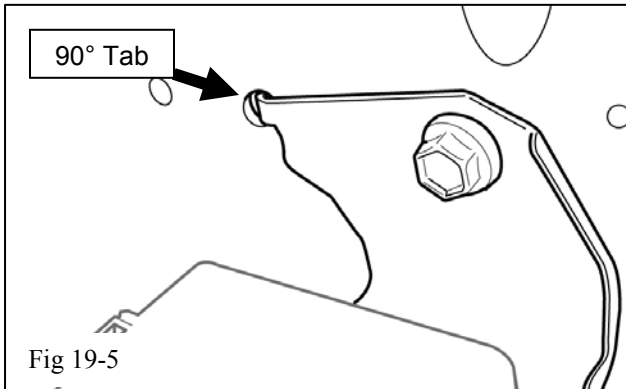

Fig 19-5
- (f) There will either be an open M8 threaded hole in the driver's side inner fender panel, or it may have a tab on a bracket in the threads hole as shown (Fig 19-5).